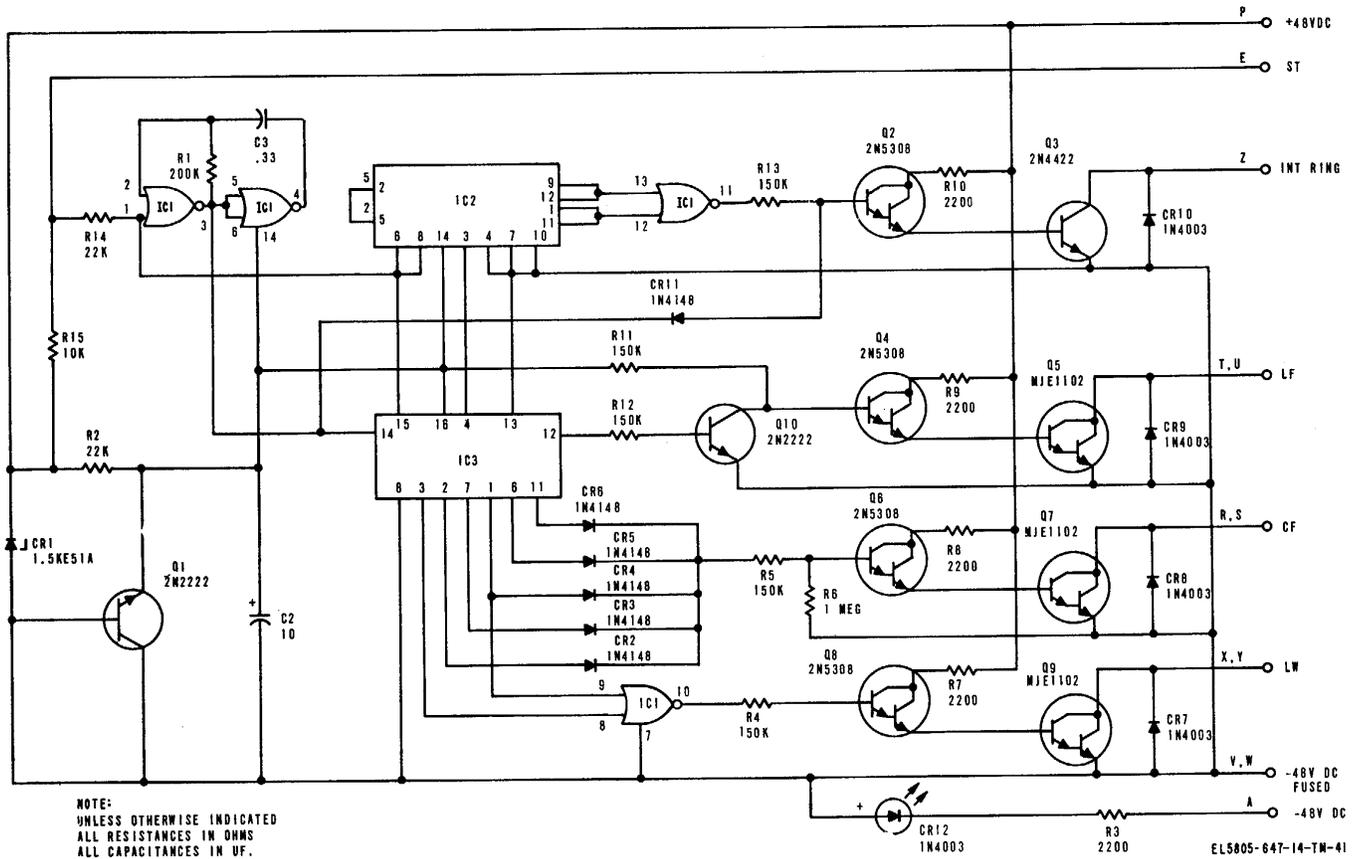

Figure 4-11. Interrupter INT-9740, schematic diagram.
b. *Interrupter Circuit Function* (fig. 4-11 and 4-12). Audible and visual indications are accomplished by means of Interrupter, INT 9740. The interrupter functional circuit operation is as follows:
(1) Interrupted local ring excitation is provided on pin Z. This consists of an alternating ON/OFF switching transistor with switching characteristics defined in timing diagram. Transistor Q3 is capable of switching ring loads up to 500 milliamps DC.
(2) Lamp flash (LF) is provided on pins T and U to indicate an incoming call and is capable of switching lamp loads of up to 5 amps, in a sequence defined by the timing diagram.
(3) Lamp wink (LW) is provided on pins X and Y to indicate when a call is on hold and is capable of switching lamp loads of up to 5 amps in a sequence defined by the timing diagram.
(4) Conference flash (CF) is provided on pins R and S to indicate when a call has been put on conference and is capable of switching lamp loads of up to 5 amps in a sequence defined by the timing diagram.
(5) Timing is provided by an oscillator comprised of two gate-sections of IC1. Timing is preset such that the oscillator runs at 10 pulses per second as determined by C1 and R1. The oscillator is enabled whenever card pin E (ST) is connected to minus 48V DC. The output of the timing oscillator (IC1 pin 3) drives IC3 pin 14 providing a clock input to IC3. It also connects to CR11 cathode for the purpose of providing a warble effect to the local audible ring device. IC3 counts the positive going oscillator pulses and provides a decimal output on 10 lines. Output time interval #0 and #5, IC3 pin 3 and 1, respectively, drive IC1 so that IC1 pin 10 goes to 0 volt during time intervals 0 and 5. IC1 pin 10 drives transistor Q8 through current limit resistor R4. When IC1 pin 10 is at 0 volt, Q8 is turned OFF and Q9 is turned OFF, causing card pins X and Y to be effectively an open circuit. This R7 provides Q8 transistor collector current limiting. Q8 and Q9 are ON during all other time intervals providing the ON intervals for Lamp Wink.
(6) IC3 pins 1, 2, 6, 7, and 11 are ORed together with diodes CR2, 3, 4, 5, and 6 providing base